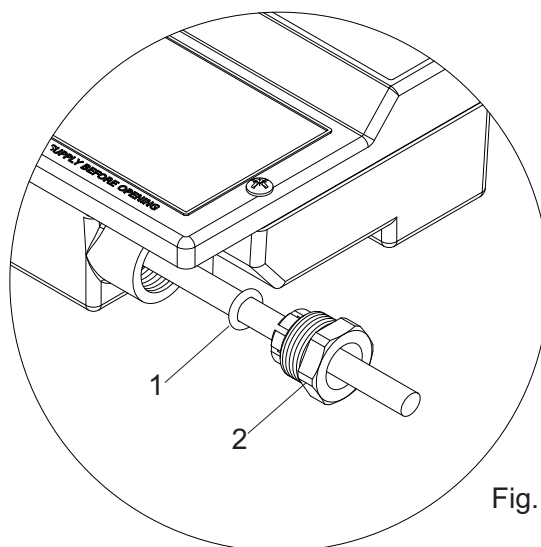

Fig. 17
The cable gland assembly Fig. 17 (items 1 & 2) provides the necessary protection against ingress of solid objects and moisture as well as providing cable retention.
- 2) Disassemble cable gland as shown in Fig. 17 and insert cable into position ensuring 'O'-ring (item1) is placed over cable before the clamping insert (item 2) is tightened.